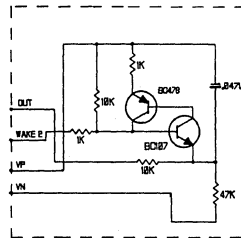

Fig.19 SAW TOOTH OSC
- Option 1 (Fig. 19) Saw tooth generation independent of radio